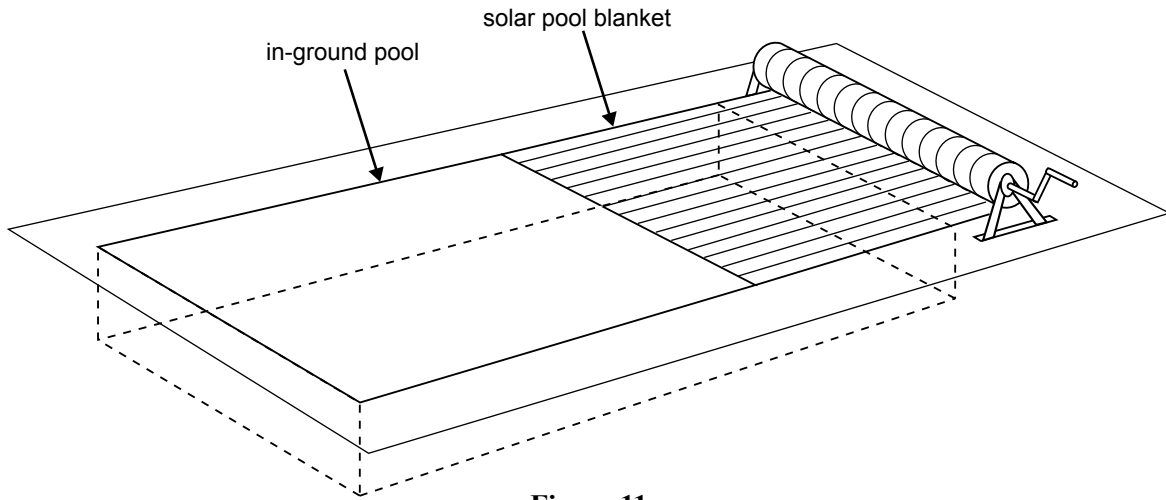
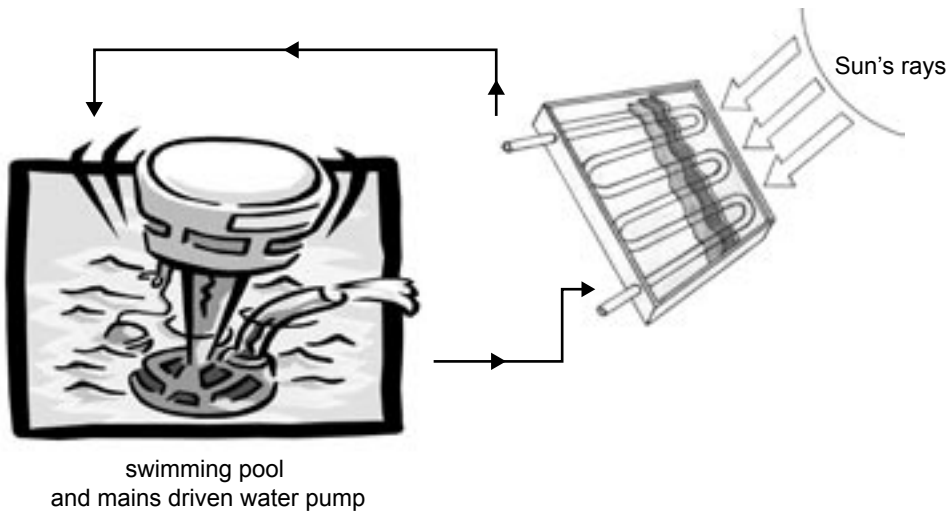

Figure 11
Figure 12
The following two diagrams (Figure 11 and Figure 12) illustrate two methods of solar heating a swimming pool.
Figure 11 illustrates a passive heating system and Figure 12 an active heating system.
- a. Explain briefly why the operation of the heating system shown in Figure 11 is more environmentally friendly than the example shown in Figure 12.
- b. Explain why the heating system shown in Figure 11 is inefficient in its operation.
- c. State the major negative environmental effect of the **operation** of the system illustrated in Figure 12.
- d. Explain why the heating system illustrated in Figure 12 is more efficient in its operation than the system shown in Figure 11.